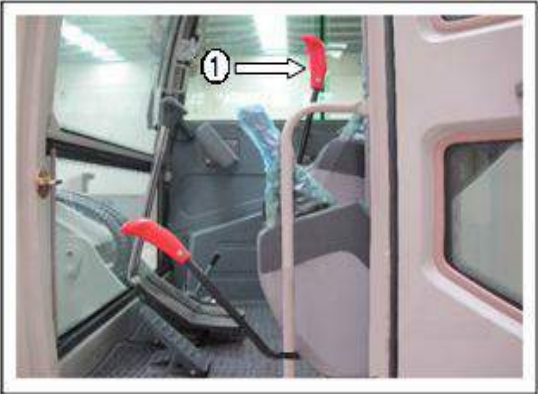

Fig 3—24
1. Draw back the safety pole ①(Fig 3—25), make the left operating device up to the lock position, when the safety pole (Fig 3—25) is on the lock position, all the working devices do not work